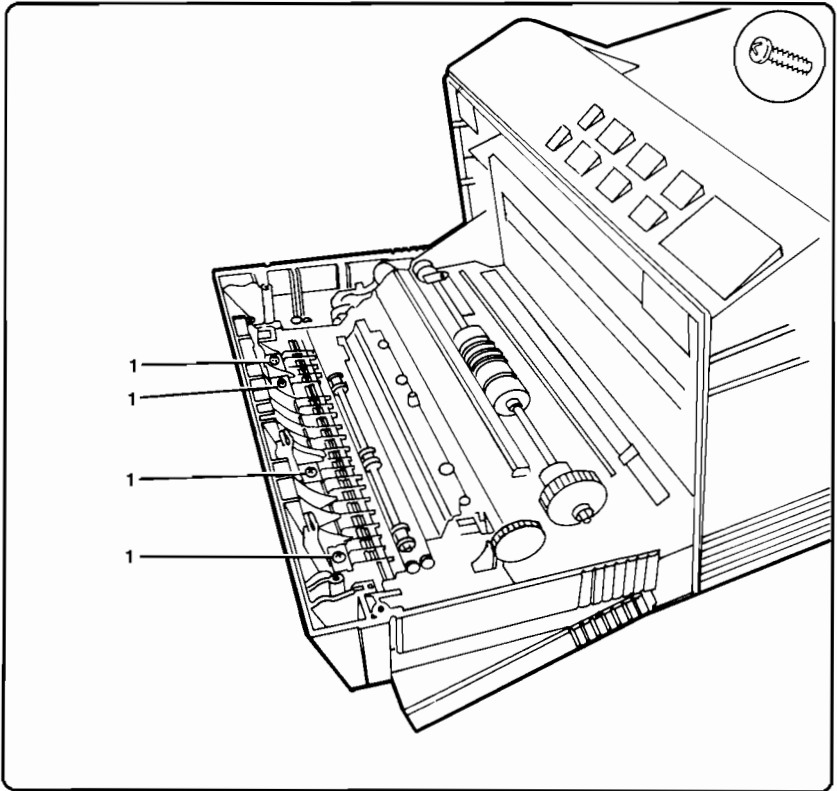

Figure 6-69. Face Down Output Roller Removal
3. Remove the screw (1) securing each Face Down Output Roller and remove the roller assembly (see Figure 6-69, callout 1).